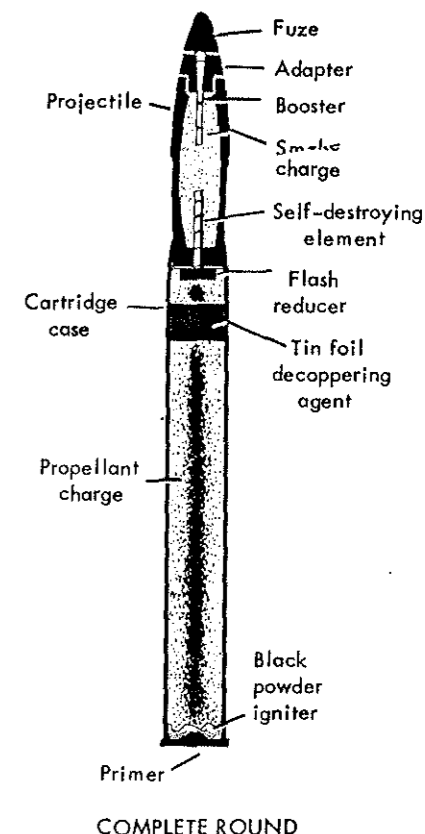
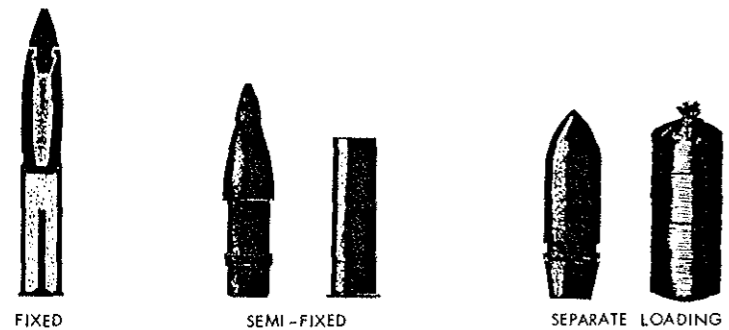

Figure 57.
Figure 58.
Artillery ammunition usually consists of five major component parts: (1) the fuze; (2) the projectile; (3) the cartridge case; (4) the propellant charge; and (5) the primer. A typical complete round is shown in figure 57. These components are assembled into three basic types of ammunition: fixed, semi-fixed, and separate-loading. (Drawings of these will be found in fig. 58.)